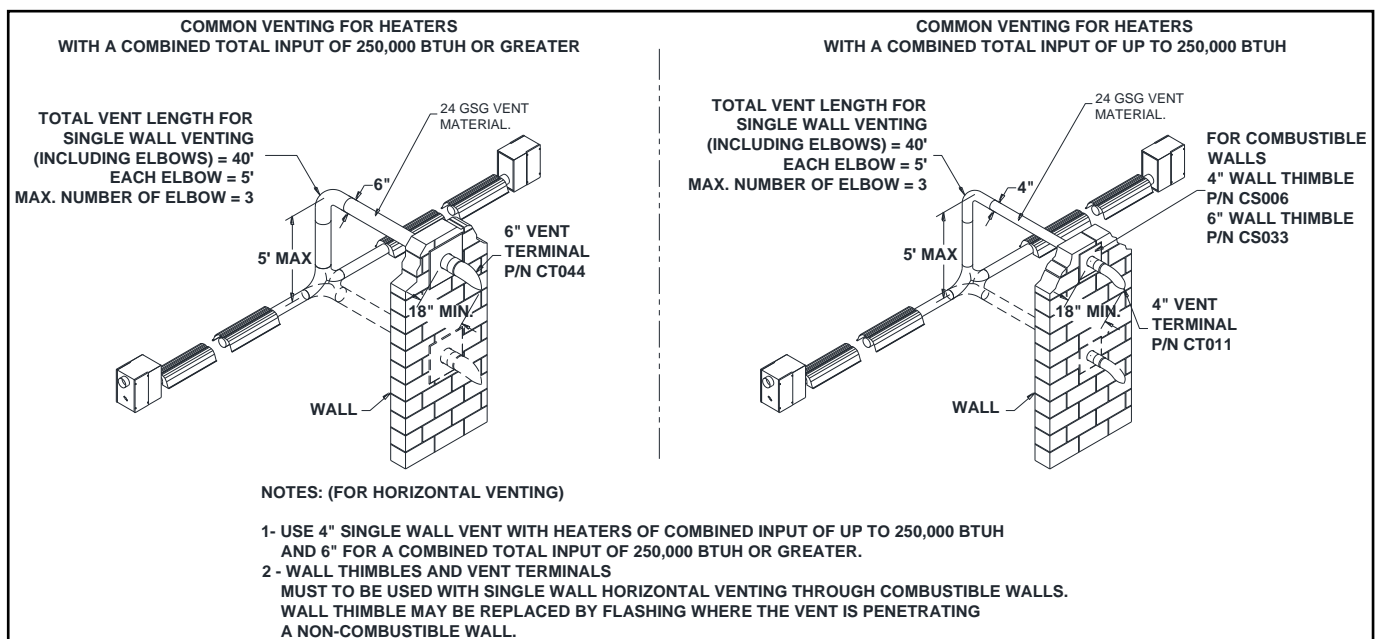

Figure 27: Common Horizontal Venting
- Refer to Figure 27 for detailed Common Horizontal Venting guidelines.